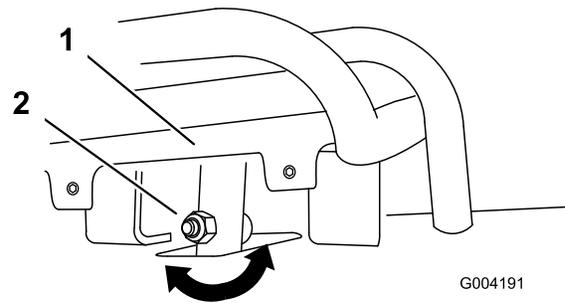
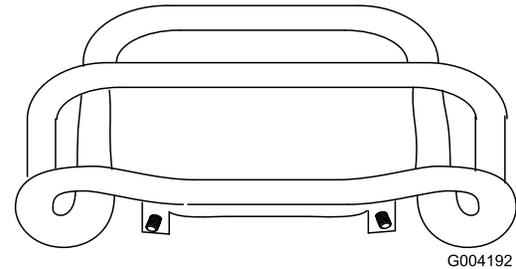

Figure 54
Figure 55
4. If the front of the traction control does not rest square and flush with the reference bar, loosen the flange nut and bolt in the stem of the traction control (Figure 54).
5. Adjust the traction control so that it rests flush against the reference bar when it is pulled straight back (Figure 54 and Figure 55).
- C. Loosen the flange nut and bolt in the stem of the traction control (Figure 54).
I. Adjust the traction control so that it rests flush against the reference bar when it is pulled straight back (Figure 54 and Figure 55).